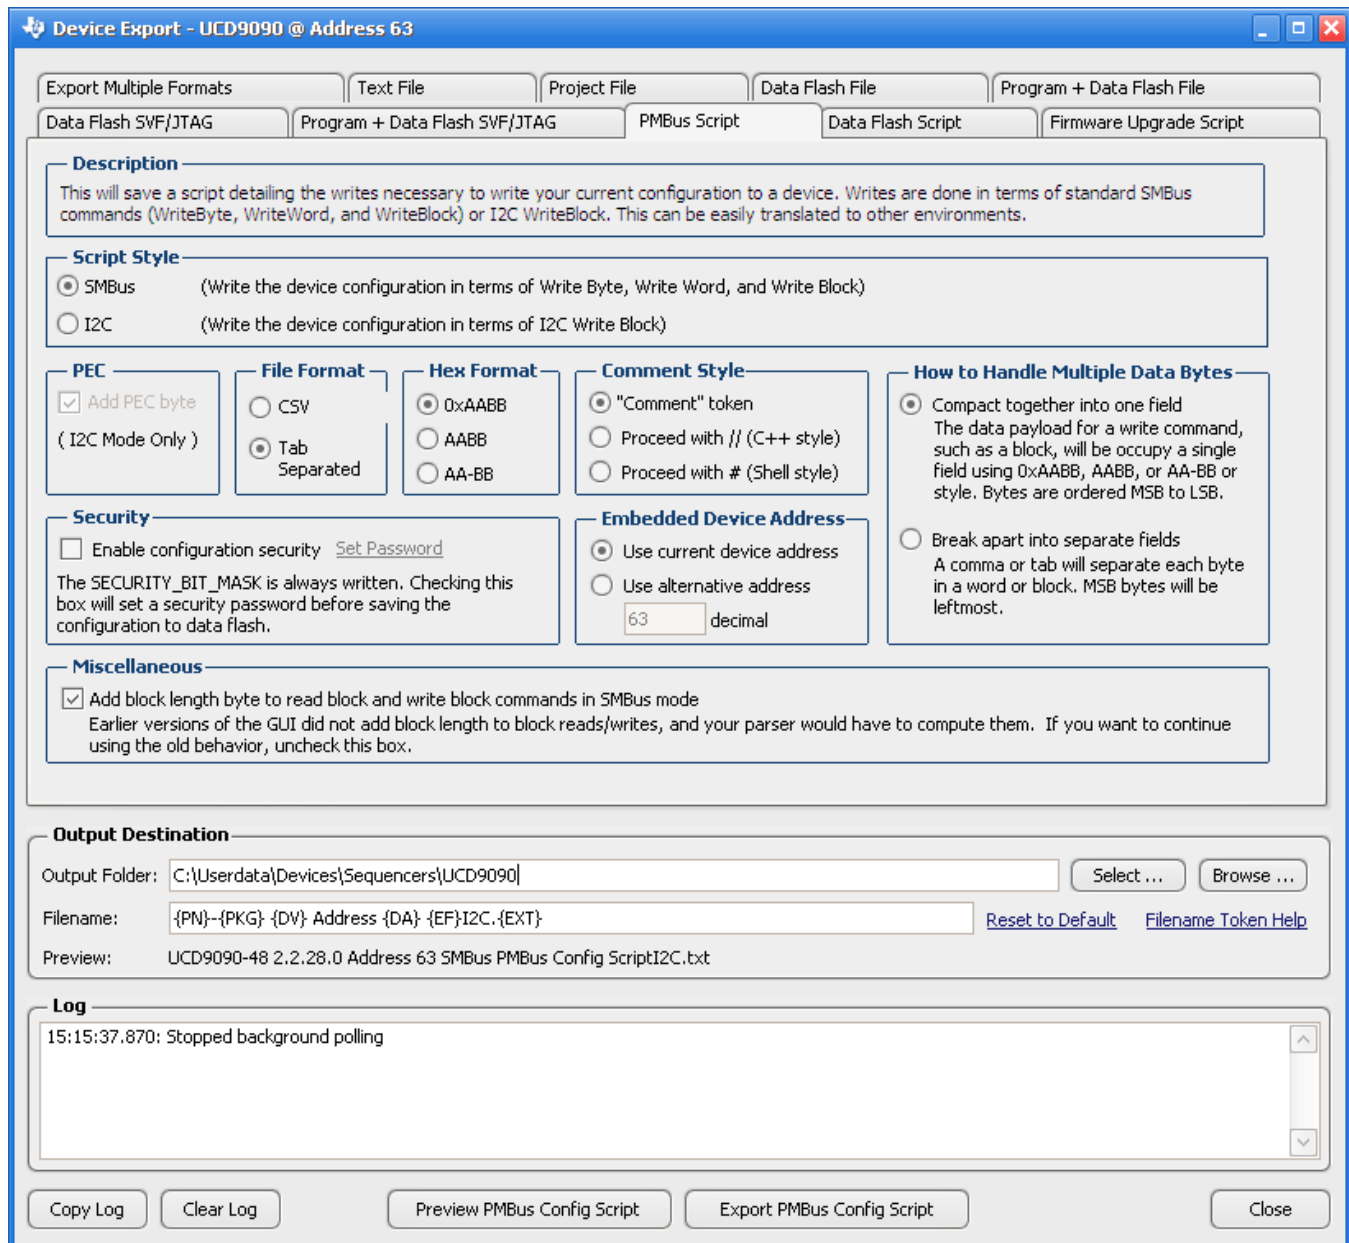

Figure 30. Fusion GUI PMBus Configuration Script Export Tool
- The *Fusion GUI* (Figure 30) can create a PMBus or I²C command script file that can be used by the I²C master to configure the device. This method may cause unexpected behaviors on GPIO pins which can disable rails that provide power to device. It is not recommended for production programming.